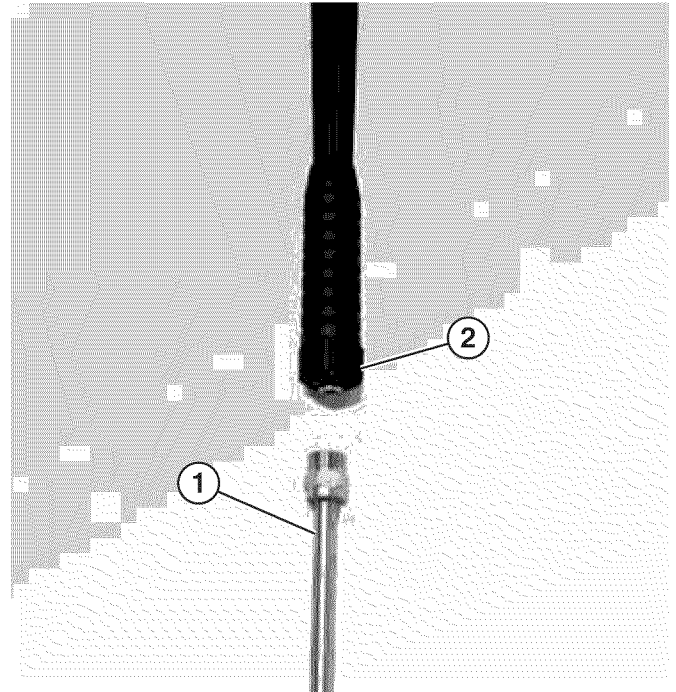

Figure 14 – Connecting Spray Wand
12. Connect the wand to the spray gun and turn the fitting counterclockwise to tighten (see Figure 14). Do not overtighten. The fitting only needs to be hand-tight.